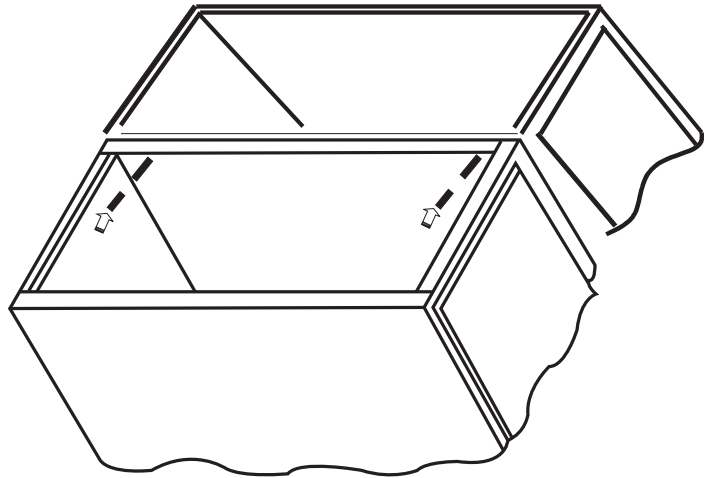
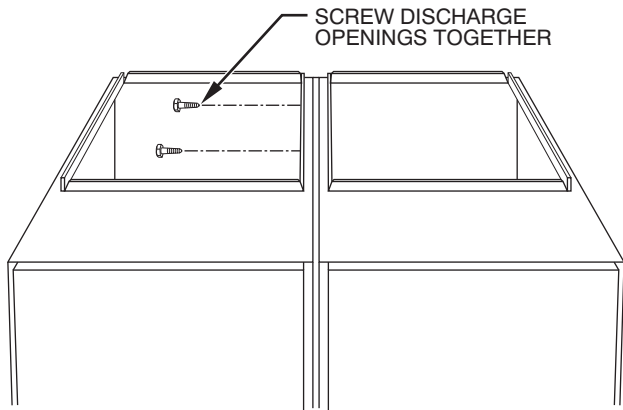

Fig. 10 – Attaching Furnaces Together at Return Air Opening A02219A
Fig. 9 – Furnaces Together at Discharge Opening A93539
4. Drill two 1/8 in. (3 mm) holes, approximately 1 in. (25 mm) below discharge air flange, from inside top of discharge opening and through both furnaces, see Fig. 9.
5. Drill two 1/8 in. (3 mm) holes, approximately 1 in. (25 mm) below return air flange, from inside top of return air opening and through both furnaces, see Fig. 10.
- Drill two 1/8 in. (3 mm) holes, approximately 1 in. (25 mm) below return air flange, from inside top of return air opening and through both furnaces, see Fig. 10.
- Drill two 1/8 in. (3 mm) holes, approximately 1 in. (25 mm) below discharge air flange, from inside top of discharge opening and through both furnaces, see Fig. 9.
11. Drill two 1/8 in. holes, approximately 1 in. (25 mm) below discharge flange, from inside top of discharge opening and through both furnaces, see Fig. 9. Drill two 1/8 in. holes, approximately 1 in. (25 mm) below return air flange, from inside top of return air opening and through both furnaces. (Use Fig. 10 as an example).
11. Drill two 1/8 in. holes, approximately 1 in. (25 mm) below discharge flange, from inside top of discharge opening and through both furnaces, see Fig. 9. Drill two 1/8 in. holes, approximately 1 in. (25 mm) above return air opening flange, from inside blower compartment and through both furnaces, see Fig. 10.